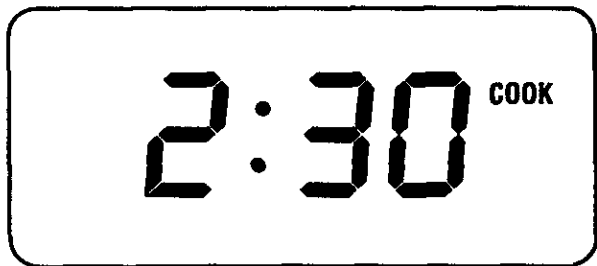

Figure 9.
8. After the cook time has been set a "beep" will sound and the indicator word COOK will appear in the display and the oven will begin heating. Figure 9 shows what the display would look like at this time if a cooking time of 2 hours and 30 minutes had been set.